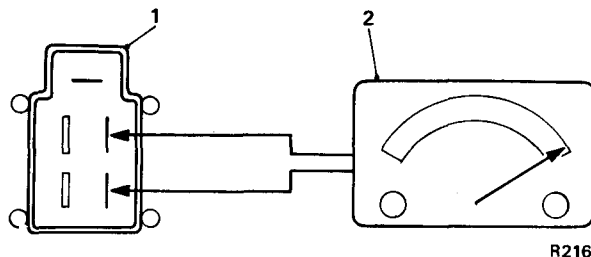

FIG. M79 CONTINUITY TESTING
7. Connect a circuit continuity tester across the non-adjustable switch terminals 2 and 4 (see Fig. M79).